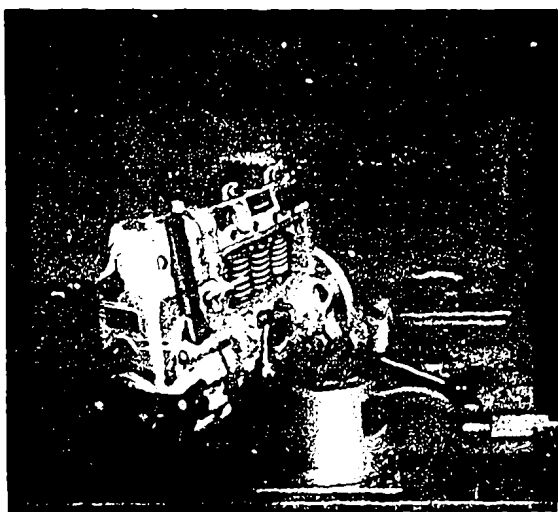

Fig. 3 Pump and governor fitted to vise
Fit injection pump together with its governor to swivelling vise EP 8498 (Fig. 3). On PES... A pumps, use angle clamping bracket EF 8498/30. Unscrew stop or idling stop screw (87 ... 89) and auxiliary idling spring (92 ... 96). Remove hex. bolts (144) complete with spring washers (145) and lift off end-cover (142). Collect oil running out in work bench tray or suitable container. Carefully release gasket (143).